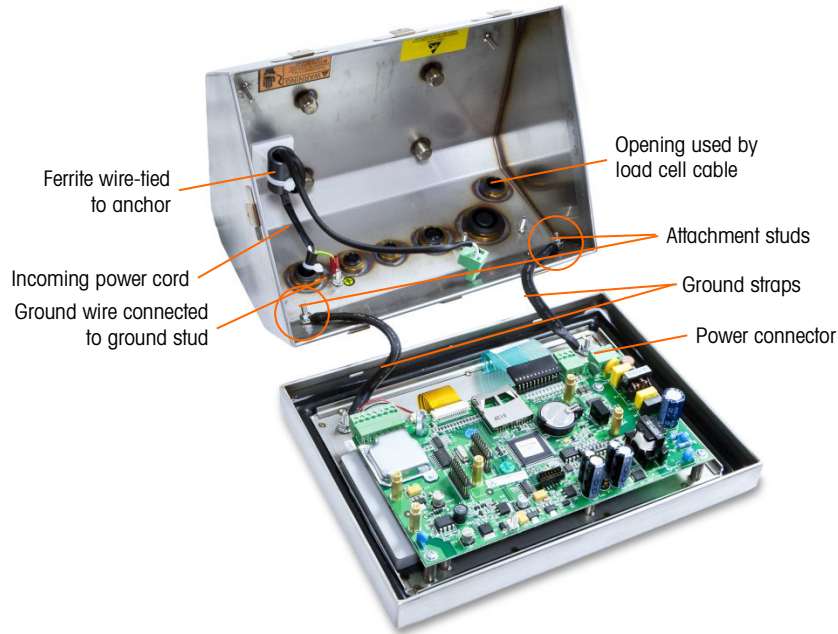

Figure A-4: Preparing to Detach Front Panel
1. Open the enclosure as detailed in the Opening the Enclosure (A-1) section. For steps 3 to 10, refer to Figure A-4.